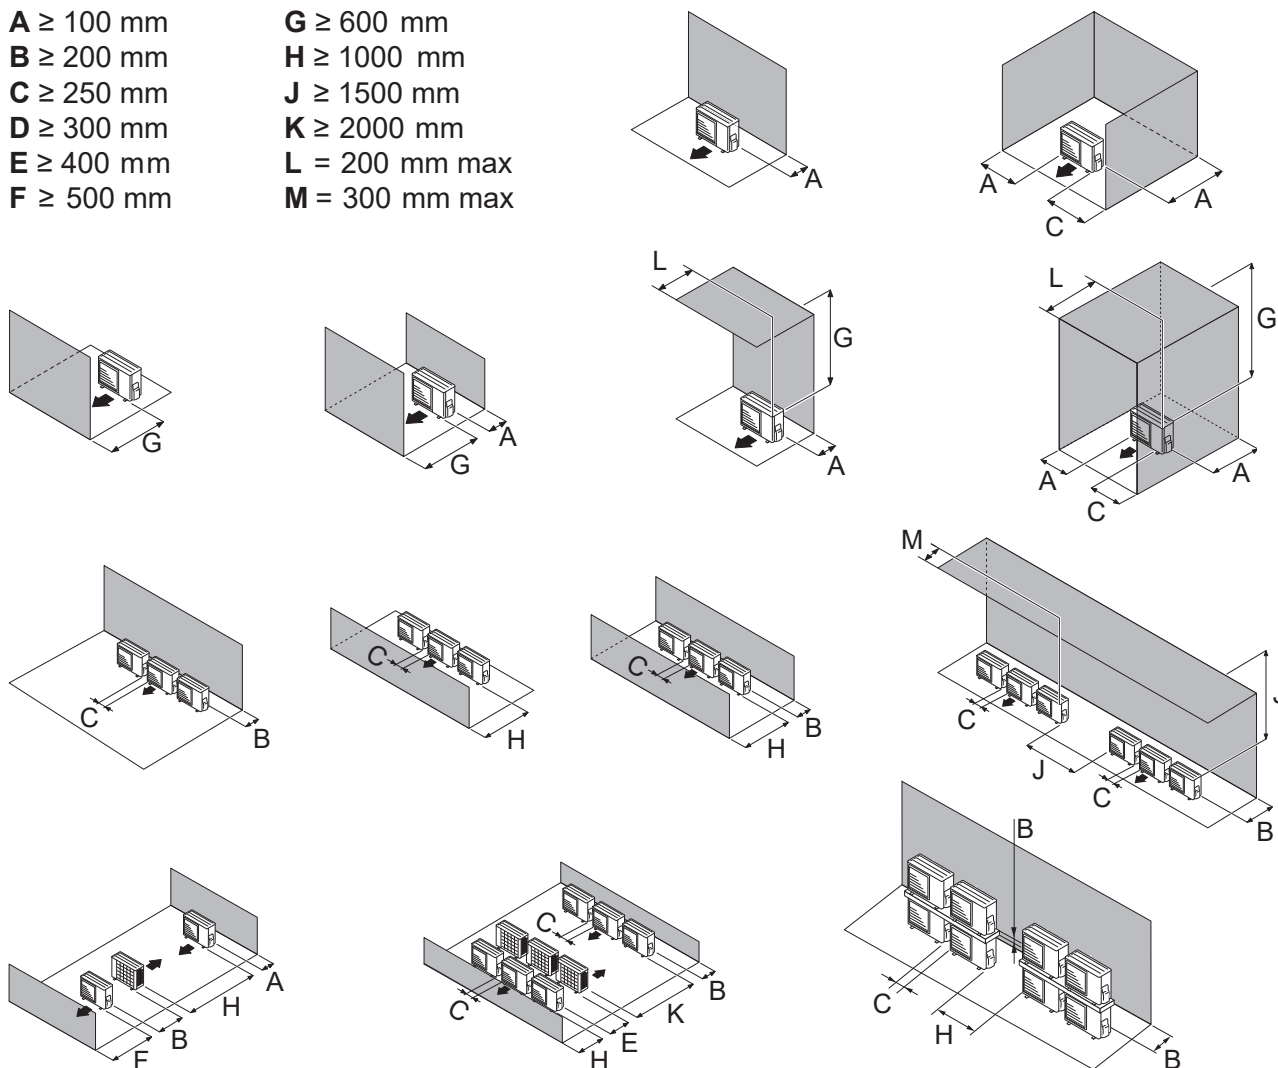

fig. 13 - Minimum installation clearances around the outdoor unit (model 4, 6 & 8)
- The unit must be easily accessible for future installation and maintenance work (fig. 13 & fig. 14, page 16).
- Caution should be taken to ensure that there is no obstruction to air circulating through the outdoor unit (fig. 13 & fig. 14, page 16).